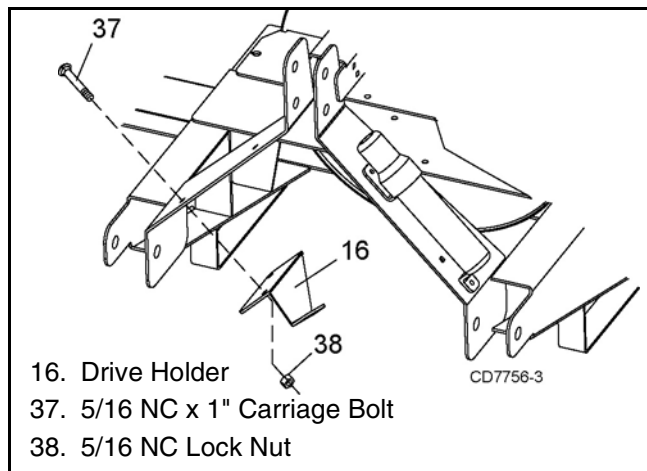

Figure 16. Install Drive Holder
3. Remove hardware (37) and (38) from front right mast plate hole and rotate drive holder (16) until holes are aligned, Figure 16.
4. Reinstall hardware (37) and (38).